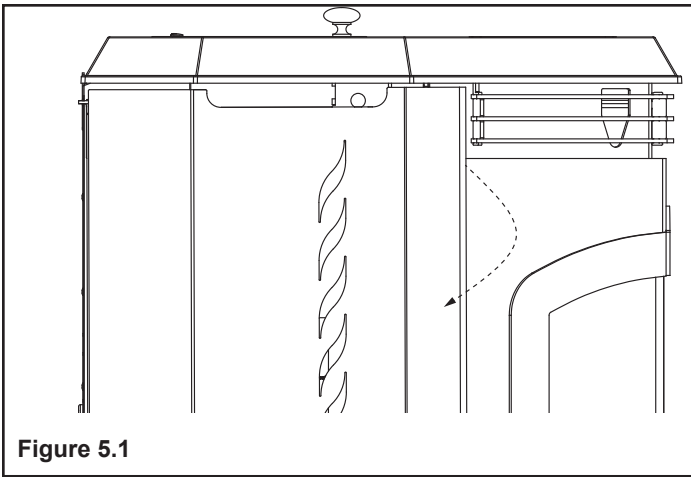

Figure 5.1
1. Open side doors. Figure 5.1